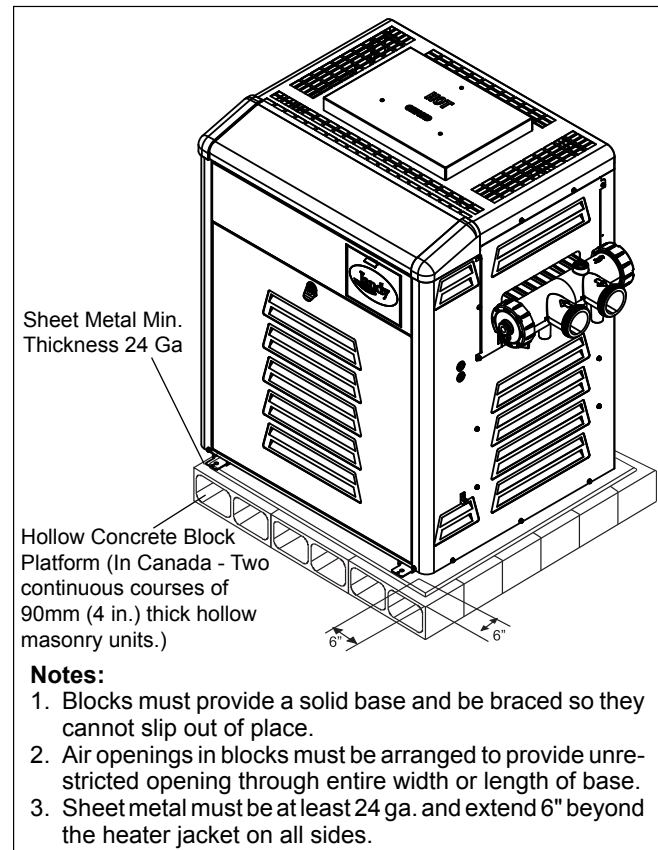

Figure 2. Noncombustible Platform
As an alternative to the Jandy noncombustible base plate, in the United States, the National Fuel Gas Code (NFPA 54 / ANSI Z223.1), and in Canada, the Natural Gas and Propane Installation Code (CAN/CSA-B149.1), allow a heater to be placed on a combustible surface when there is a platform under the heater made of hollow masonry no less than four (4) inches (102 millimeters [mm]) thick, covered with sheet metal at least 24 gauge thick and extending beyond the full width and depth of the heater by at least six (6) inches (153 mm) in all directions. The masonry must be laid with ends unsealed, and joints matched to provide free circulation of air from side to side through the masonry, see Figure 2. If the heater is installed in a carpeted alcove, the entire floor of the alcove must be covered by a noncombustible panel.